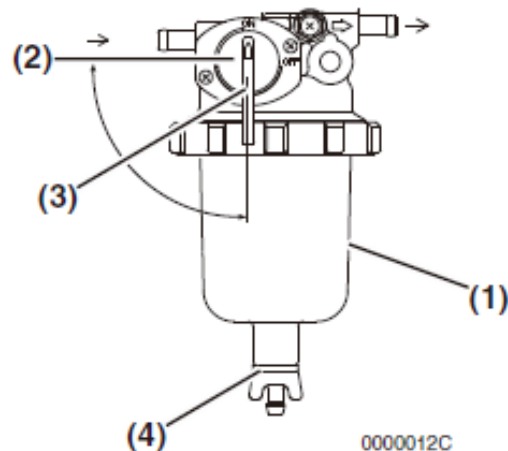

Fig.9-9
1. Position an approved container under the fuel filter / water separator **(Fig.9-9, (1))** to collect the contaminants.
2. Close **(Fig.9-9, (2))** the fuel cock **(Fig.9-9, (3))**.
3. Loosen the drain cock **(Fig.9-9, (4))** at the bottom of the fuel filter / water separator. Drain any water collected inside.
5. Open the fuel cock **(Fig.9-9, (3))**.